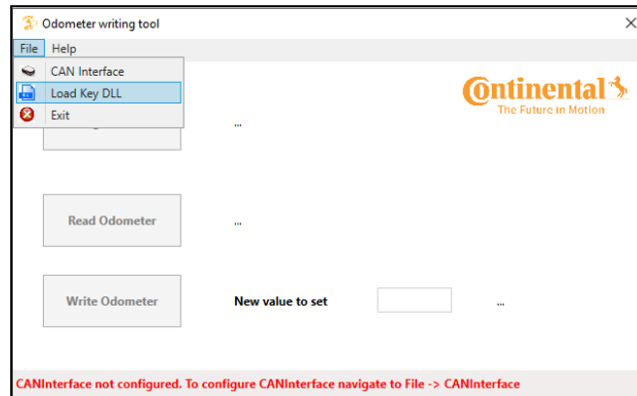

Figure 8
- a. Click on “FILE” and select “LOAD KEY DLL” (see figure 8).